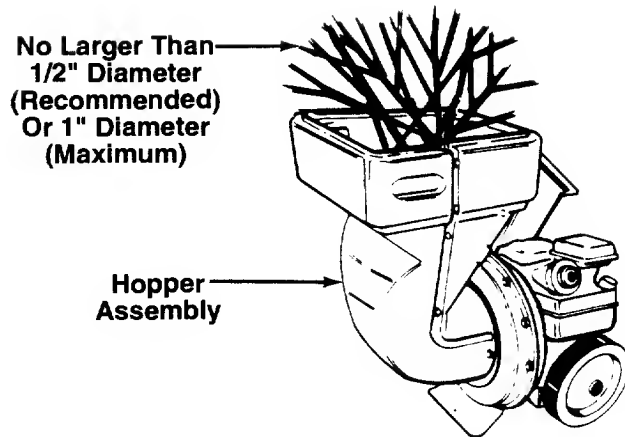

FIGURE 5.
- Leaves and small branches up to 1/2" diameter (recommended) or 1" diameter (maximum) can be fed into the hopper assembly. See figure 5. If it becomes necessary to push material into the chipper-shredder, use a small diameter stick—NOT YOUR HANDS. The stick should be small enough that it will be ground up if gets into the impeller assembly.